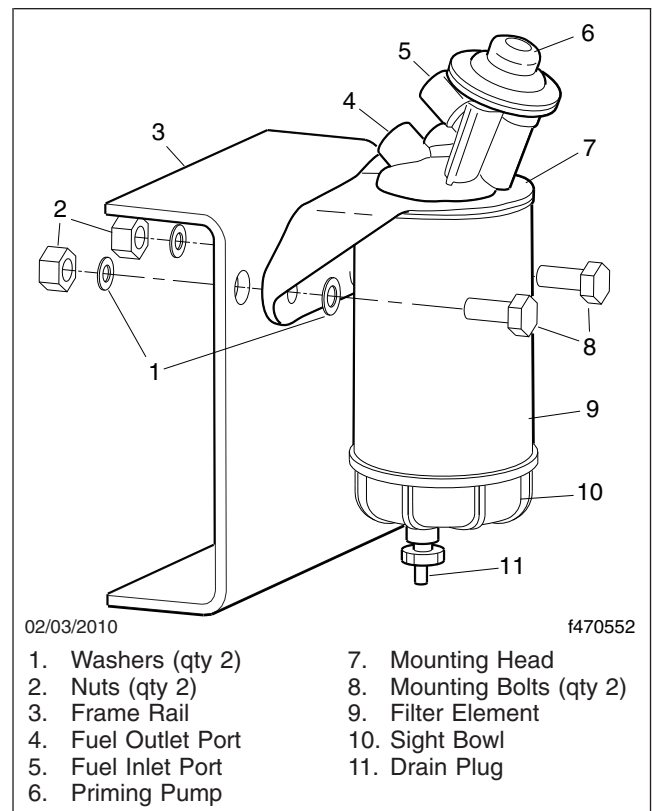

Fig. 23.9, Alliance Fuel/Water Separator Assembly and Installation
- 1.3 *Alliance/Racor Models:* Turn the drain plug counterclockwise to open it. See Fig. 23.9.